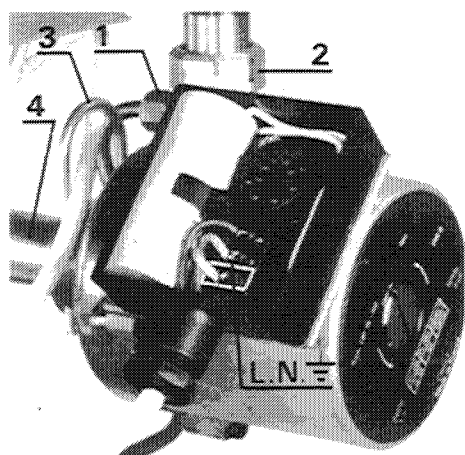

Fig. 27
- c) Remove cover from electrical box and disconnect wiring (L and N, fig 27) to pump.
- d) Unscrew nut (1, fig. 27) at rear of volute using 12 mm spanner and disconnect high pressure tube.
- e) Unscrew union nut (2, fig. 27) volute to non return valve.
- f) Remove clip (3, fig. 27) volute to extension tube.
- g) Remove pump and volute by sliding forward off extension tube (4, fig. 27). Replace components in reverse order.